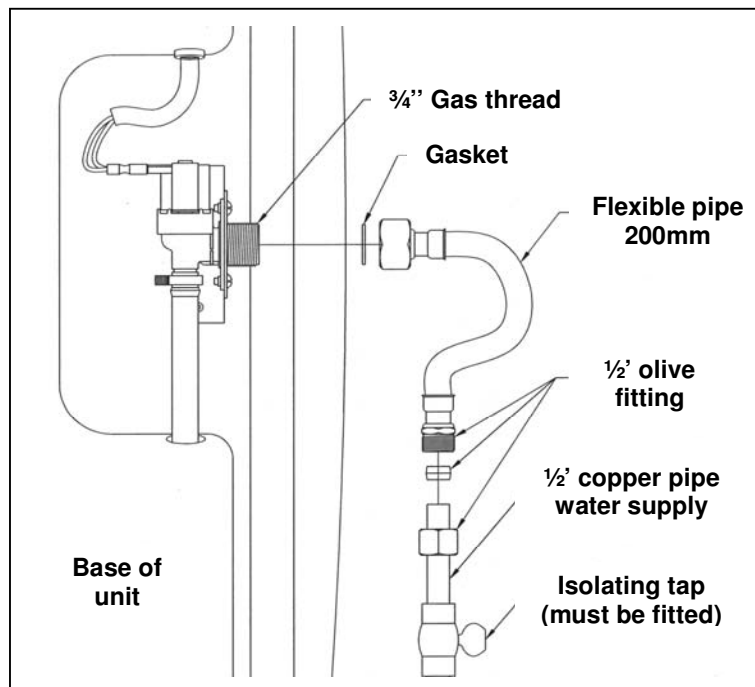

Fig 7 Water Connection
3.2.2. Water Supply Connection. (see fig 7)